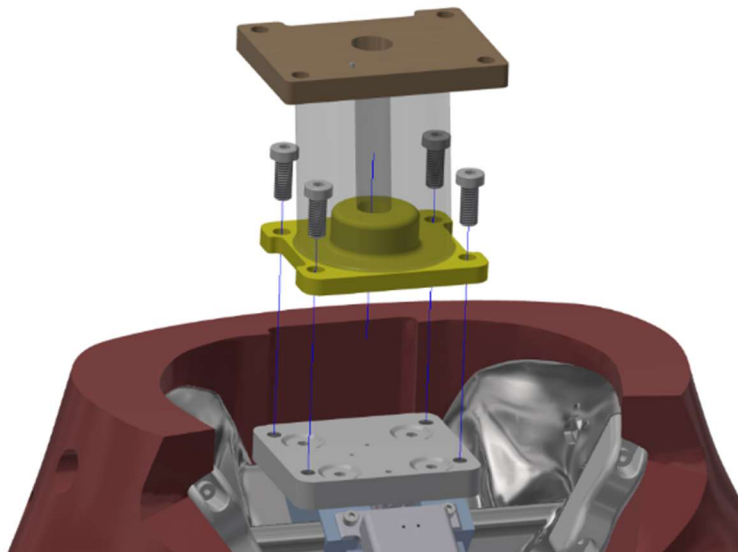

Figure 6-33. Secure the Lumbar Assembly (474-3223) to the Pelvis using four M8 X 1.25 X 20 LG. SHCS
6.3.3 Secure the Lumbar Assembly (474-3223-A) to the Upper Torso to Pelvis Adaptor Plate (474-4004) using four M8 X 1.25 X 20 LG. SHCS (Figure 6-33).